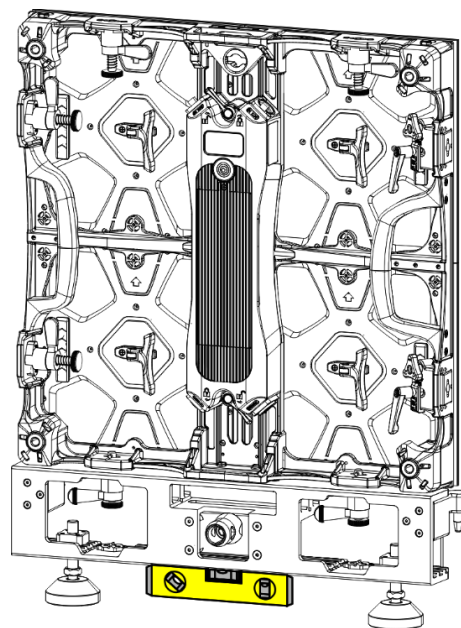
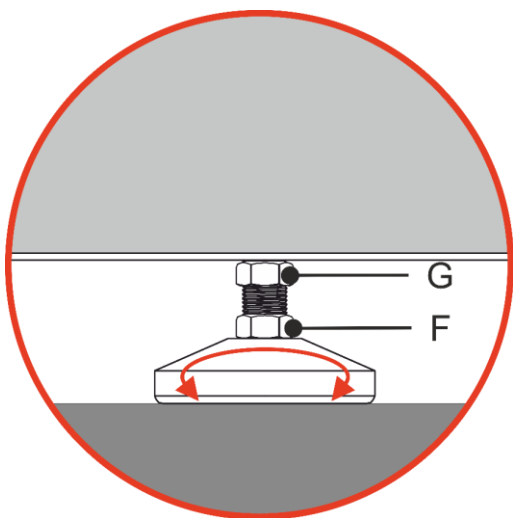

Fig. 47
Fig. 48
08) Make sure that the LED screen is leveled, as shown in Fig. 47. To level your setup, see **4.8. Height Adjustment**, Fig. 48 and 49 on page 22.
- 01) Turn screw F of the **adjustable feet (02)** clockwise or counterclockwise to adjust the length of the feet, as shown in Fig. 48.